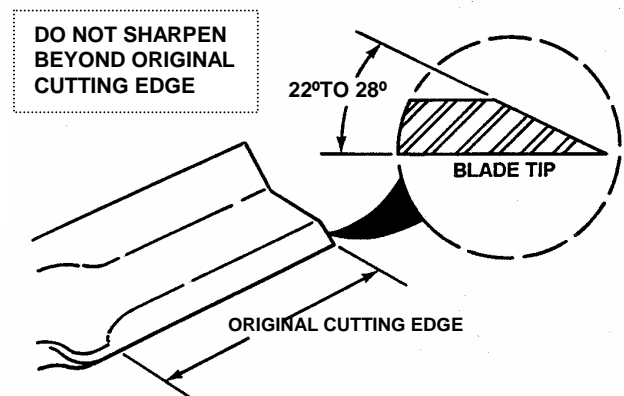

FIGURE 4.11
6. If blade is in good condition, sharpen at 22 to 28 degrees. DO NOT sharpen beyond existing cutting edge. See Figure 4.11.